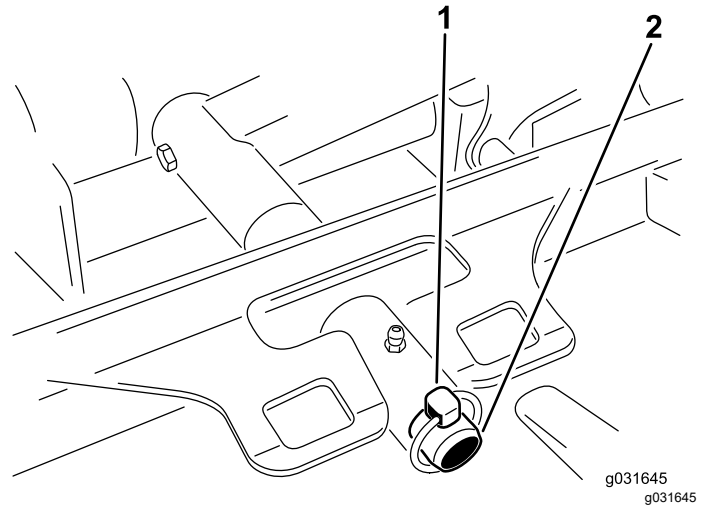

Figure 69
3. Remove the lynch pin or retaining nut securing the deck carrier frame to the lift-arm-pivot pin (Figure 69).
3. Slide the deck-carrier frame onto the lift-arm-pivot pin and secure it with the lynch pin or retaining nut (Figure 69).